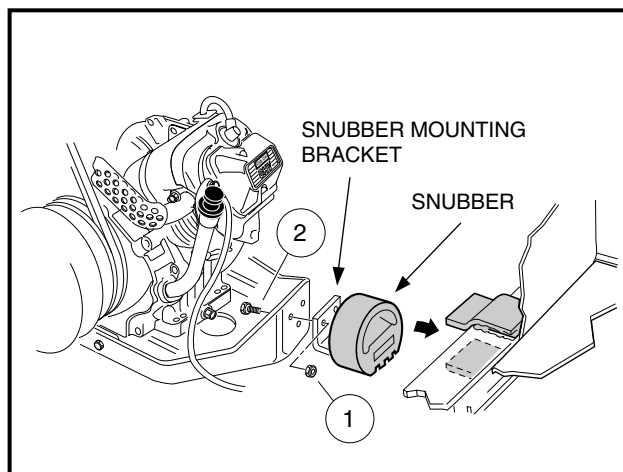

Figure 9-5 Snubber Brackets
2. Remove the two bolts (2) and two locknuts (1) securing the snubber bracket to the engine mounting plate (**Figure 9-5, Page 9-7**).
2. Tighten snubber bracket mounting nuts (1) to 13 ft-lb (17.6 N-m) (**Figure 9-5, Page 9-7**).
3. Tighten snubber bracket mounting nuts (1) to 13 ft-lb (17.6 N-m) (**Figure 9-5, Page 9-7**).